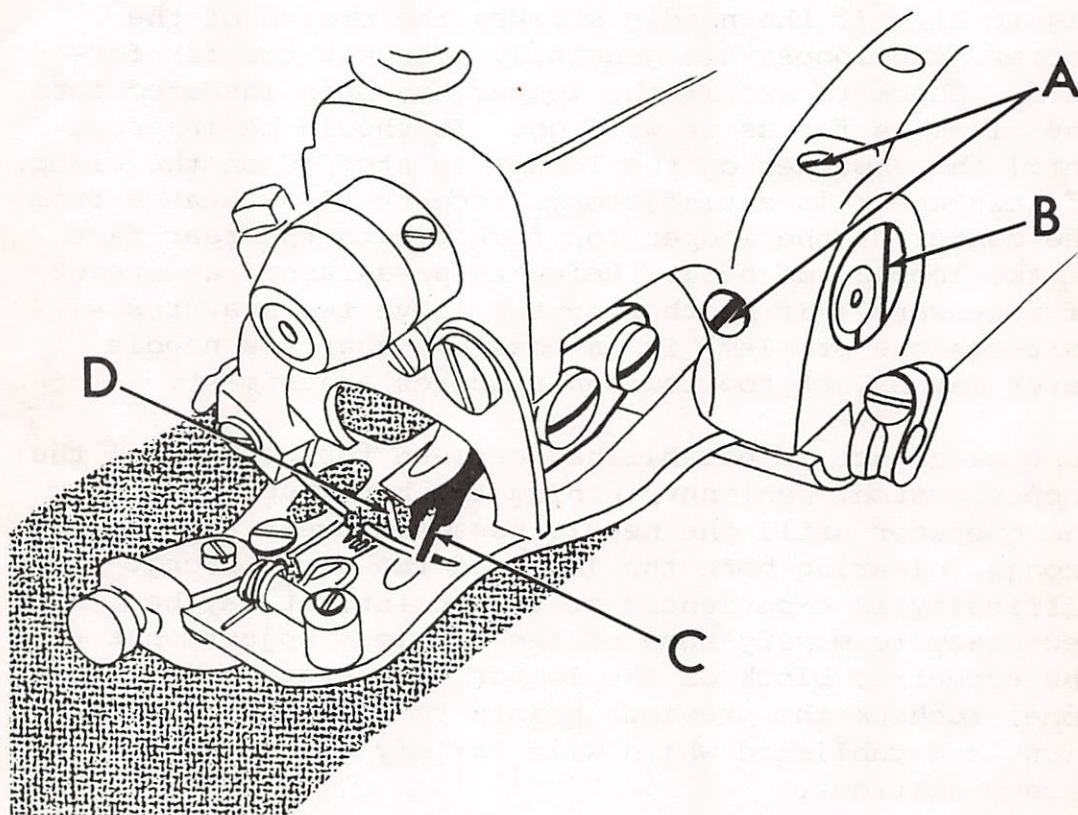

FIGURE 7
2. Any time a looper is moved or changed, recheck the looper timing and reset if necessary. Proper looper timing is absolutely essential for correct stitch formation. As described in detail below, a properly timed looper will pass over the needle in the correct position to pick up the loop, and also clear the chain-off pin, feeder, looper slot, and needle. The first check point for timing the looper is at the position where the looper picks the thread loop off the needle during the needle return stroke. Referring to Figure 7, (Point "C"), the long prong of the looper should pass over and just clear the scarf of the needle, approximately $3/32$ " (2.4mm) behind the end of the needle eye. At the same time, the short prong of the looper should pass over the needle with about $1/64$ " (.406mm) clearance, and must be so set that it also clears the chain-off pin (item "D" in Figure 7).
5. If, after completing the above adjustments, it is found that the looper is either too low or too high, it will be necessary to adjust the eccentric block. First loosen the two set screws (item "A" in Figure 7). Place a wide blade screwdriver in the slot of the eccentric block (item "B" in Figure 7) and, using a slight turning motion, raise or lower the looper as required. Once the proper height is established, check to see whether the looper must be moved to the left or to the right prior to re-tightening the eccentric block set screws. If such a movement is required, it may be obtained by lightly tapping the eccentric block in the correct direction with the handle of a screwdriver.